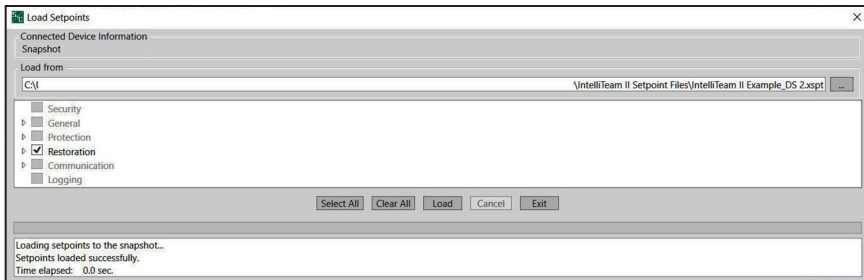

Figure 21. The setpoints loaded successfully verification message.
STEP 5. When the setpoints are loaded into IntelliLink software, a verification message is displayed. See Figure 21.